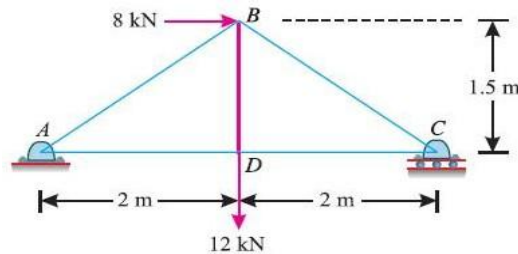

fig.32
7. Figure 32 shows a framed structure of 4 m span and 1.5 m height subjected to two point loads at B and D.